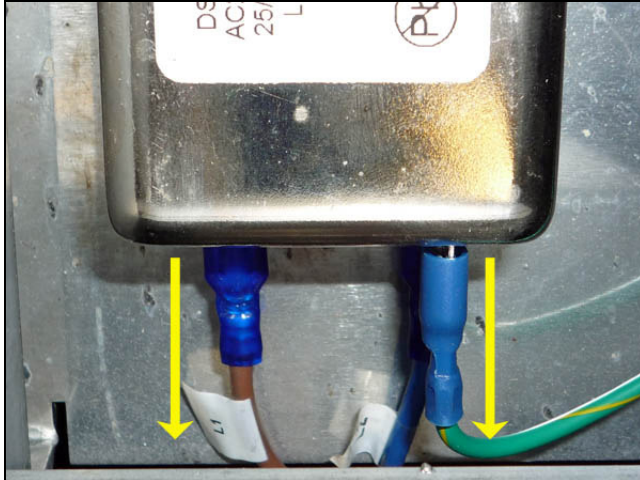

Fig. 4
5. Disconnect the cables (brown and blue) from the input side of the EMI filter (Fig. 4).